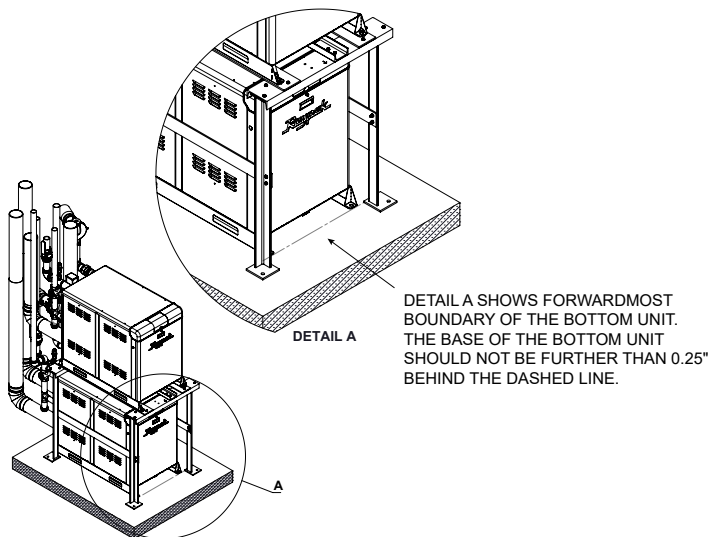

Figure 6. Secondary Unit Positioning
5. If installing a second unit at the bottom of the rack, ensure the secondary unit is placed no further than 0.25" behind the dashed line shown in **Figure 6**.